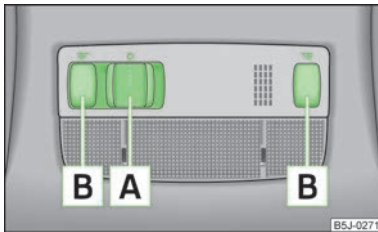

Fig. 26
- Press switch **A** » Fig. 26 towards the middle of the light, the symbol  appears.
- Press switch **A** » Fig. 26 towards the edge of the light, the symbol  appears.
- Press the switch **A** » Fig. 26 in the middle position **O**.
- Press the switches **B** » Fig. 26 in order to switch the right or left reading light on or off.